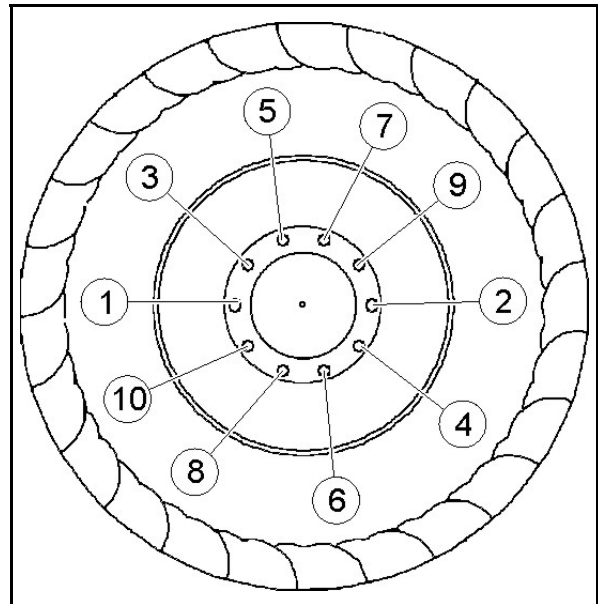

Fig. 101
3. Keep to the order shown when loosening and tightening wheel nuts. Fig. 101